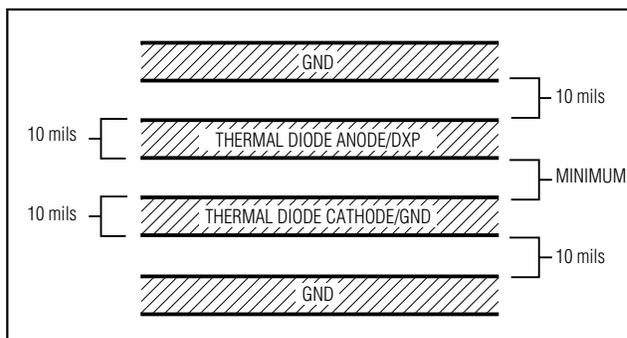

Figure 4. Recommended DXP PC Traces
- 4) Route the thermal diode traces in parallel and in close proximity to each other, away from any higher voltage traces, such as +12VDC. Leakage currents from PC board contamination must be dealt with carefully since a 20MΩ leakage path from DXP to ground causes about +1°C error. If high-voltage traces are unavoidable, connect guard traces to GND on either side of the DXP trace (Figure 4).
- 7) Use wide traces. Narrow traces are more inductive and tend to pick up radiated noise. The 10-mil widths and spacing recommended in Figure 4 are not absolutely necessary, as they offer only a minor improvement in leakage and noise over narrow traces. Use wider traces when practical.